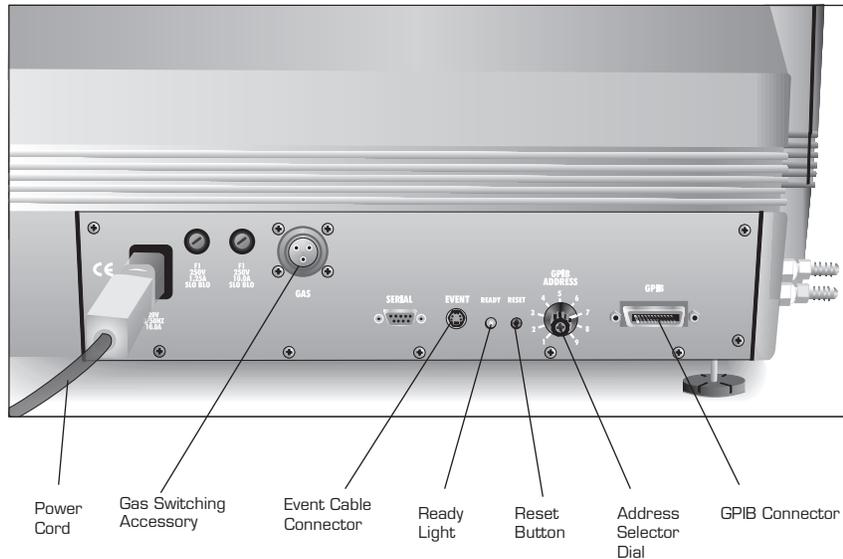

Figure 2.6
1. Locate the GPIB connector on the right rear of the TGA instrument (see Figure 2.6).